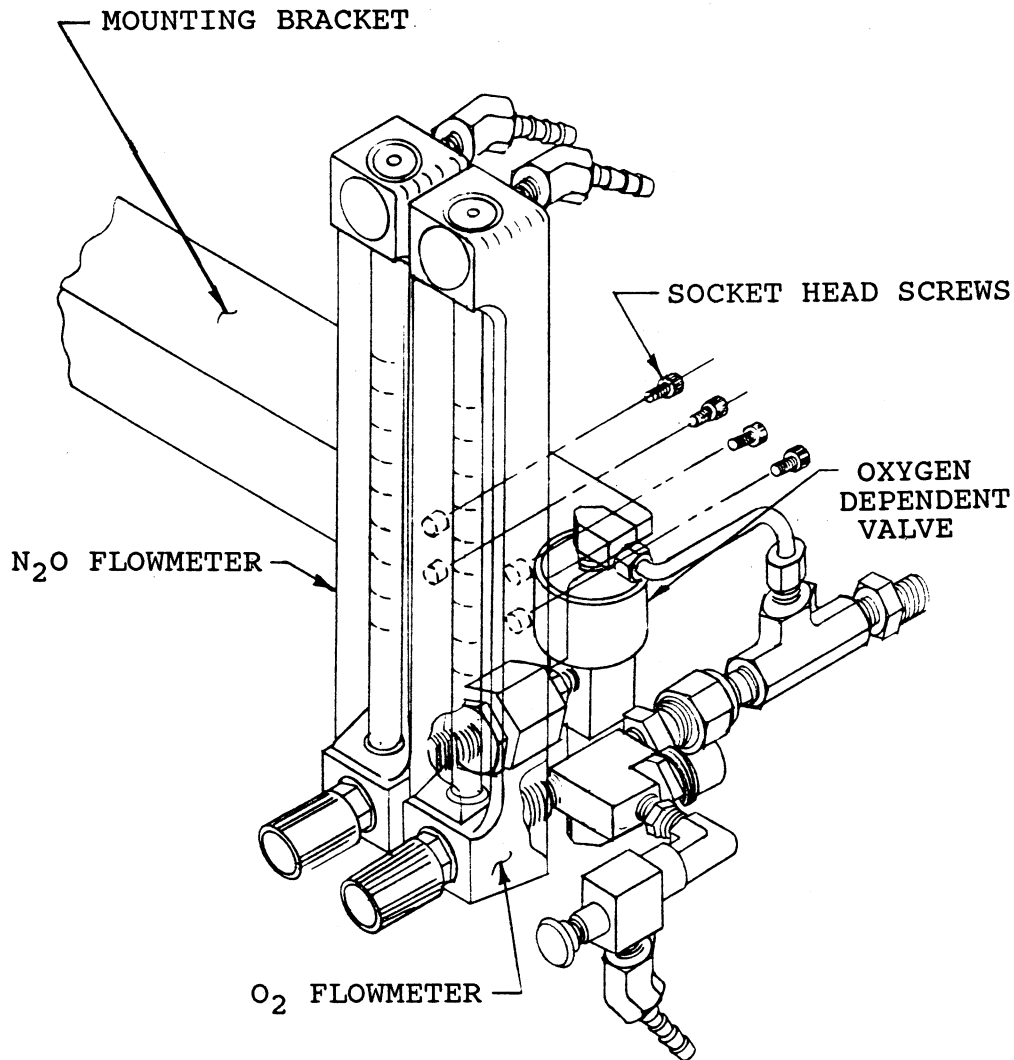

Figure 4 - Nitrous Oxide Flowmeter Option
2. Align the rear holes of the oxygen flowmeter to the extreme right holes of the mounting bracket (Figures 4, 5, 10).
**NITROUS OXIDE OPTION KIT** (See Figures 4, 6)
3. Place the oxygen DISS nut from the oxygen-dependent option to the DISS male on the lower rear of the oxygen flowmeter. Turn the DISS nut clockwise to tighten (see Figure 4).
4. Place the nitrous oxide DISS nut from the oxygen-dependent assembly to the DISS male on the lower rear of the nitrous oxide flowmeter (refer to Figure 4). Turn the DISS nut clockwise to tighten.